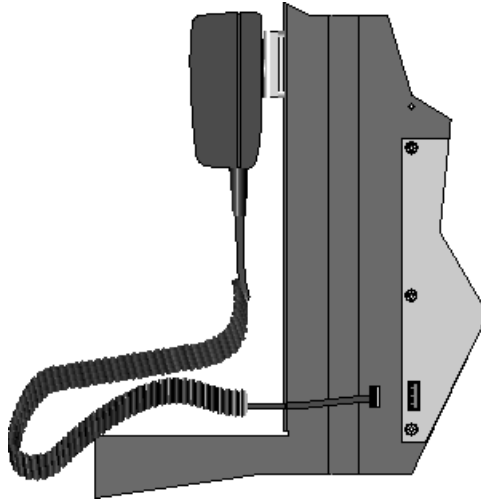

Figure 4-55 Microphone Cord Inserted Through Dead Front Panel Hole
2. Insert Microphone cord through hole at the bottom of the dead front panel. See Figure 4-55.